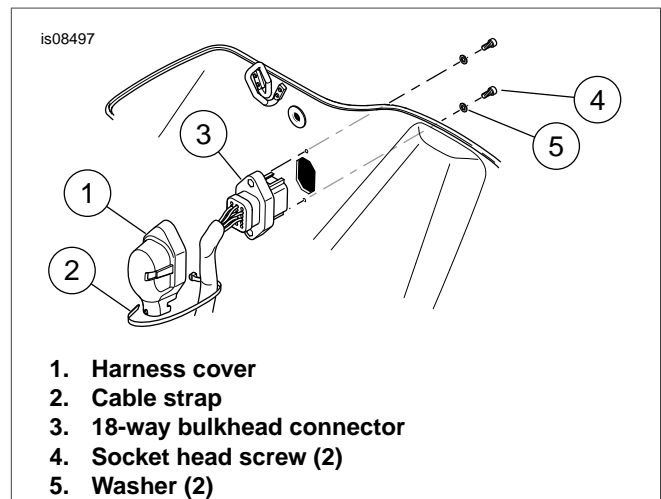

Figure 4. 18-Way Connector and Cover Installation to Right Saddlebag
7. See Figure 4. Insert the pin side 18-way bulkhead connector (3) from the saddlebag harness through the saddlebag hole from the inside. Secure the connector from **outside** the saddlebag with two socket head screws (4) and washers (5). Tighten to 35-40 **in-lbs** (4.0-4.5 N-m).